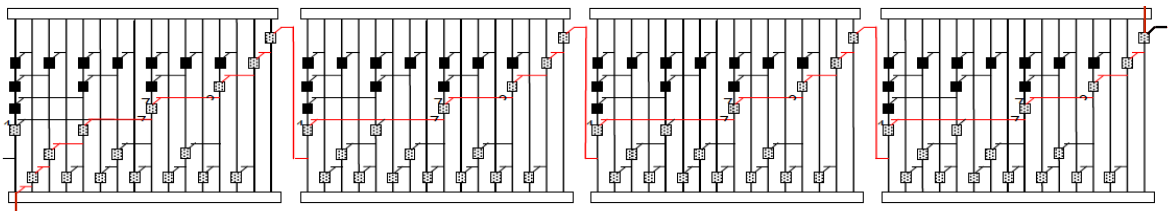

Figure 13: The 64-bit adder with its critical path drawn in red.
- The last sum to be done is sum 63, which requires G62:0 as an input to its XOR gate. The delay for the critical path is $t_{\text{setup}} + (5 + 5 + 5 + 7)t_{pg} + t_{XOR} = t_{\text{setup}} + 22t_{pg} + t_{XOR}$. See Figure 13.